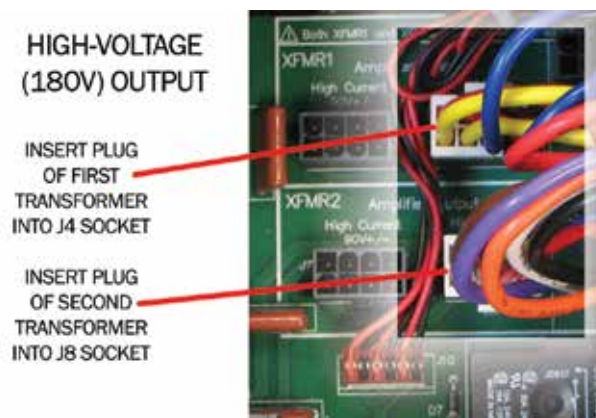

Figure 6.11 – J4 and J8 Plug Locations for High-Voltage Output
3. For High Voltage (180V) Output (see **Figure 6.11**).